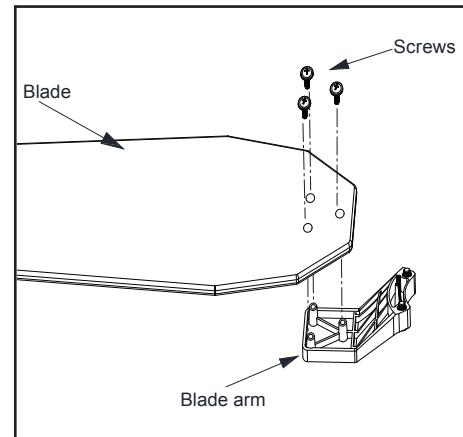

Figure 15
1. Attach blade to blade bracket using the screws as shown in figure 15. Start a screw into the bracket. Repeat for the two remaining screws.